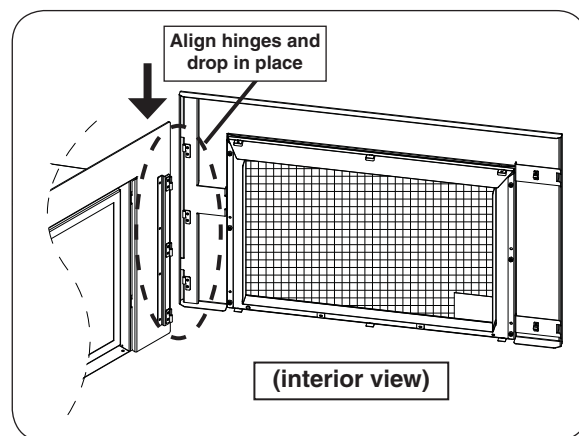

Fig. 35-3 Install surround door
Important: When installing the glass panel, ensure that no media, objects, or debris exist along the bottom of the unit that may obstruct/damage the glass panel. See Fig. 35-3.
1. The surround door has 2-3 hinges. Align the door over the hinges found on the right side of the surround fascia and drop in place. Ensure the door rests down in place. Wear gloves. See Fig. 35-3.